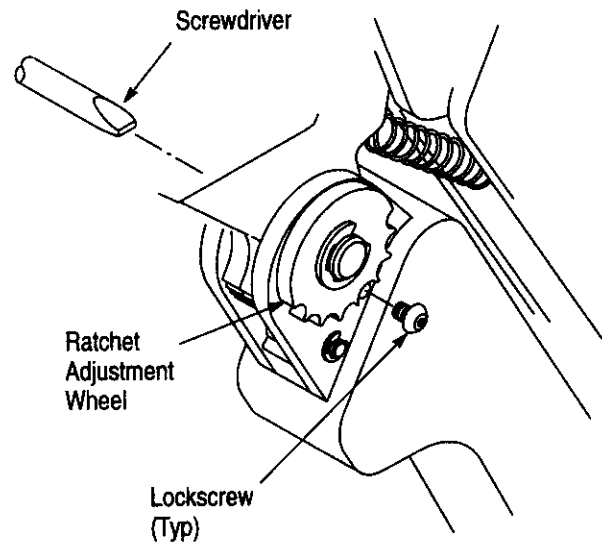

Figure 4
**5.4. Ratchet Adjustment** (Figure 4)